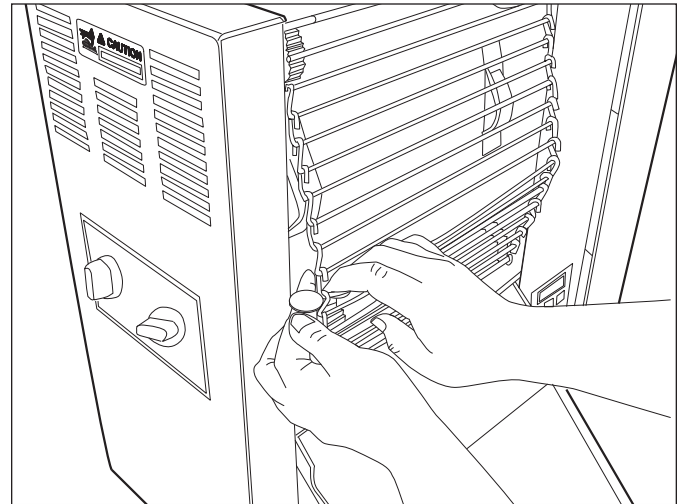

Figure 9. Measuring Conveyor Belt Chain
6. Pull the Conveyor Chain away from the edge of the toaster (Figure 9).
7. Stand a U.S. Dime on end between the frame and the chain (Figure 9).